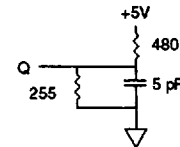

Fig. 2 OUTPUT LOAD EQUIVALENT
- tLZCE, tLZWE, tHZCE and tHZWE are specified with CL = 5 pF as in Fig. 2. Transition is measured ±200mV typical from steady state voltage, allowing for actual tester RC time constant.